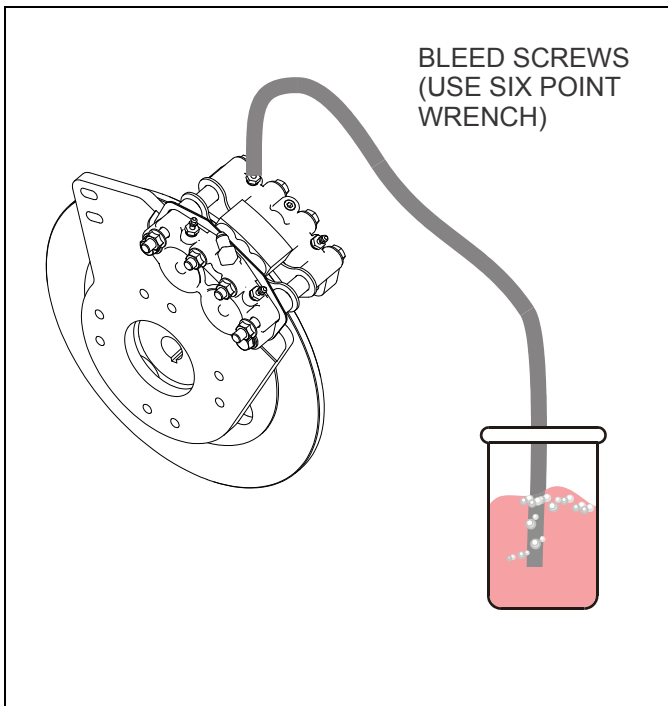

Figure 3-33: Bleeding Brakes
7. Fit a length of tubing over the bleed screw and immerse the other end in the container of new brake fluid. Check that the tubing fits tightly over the bleeder fitting (See Figure 3-33).